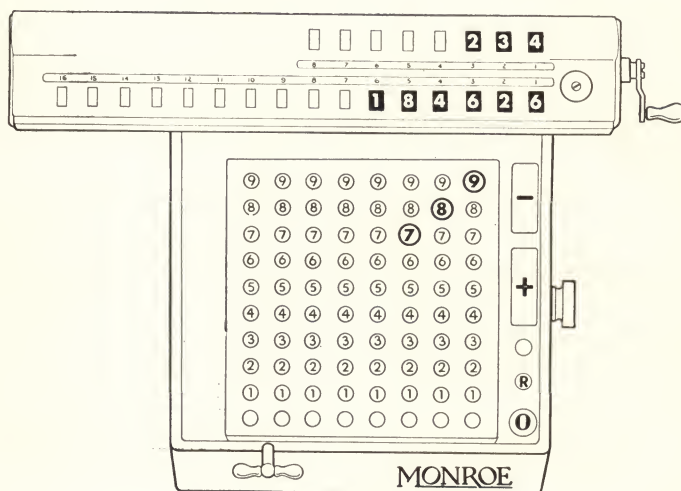

Figure 4
*Step 3*—Upper dials now read 234, the multiplier; the keyboard (keys depressed) reads 789, the multiplicand; and the lower dials read 184626, the result. This is complete and positive proof of accuracy. The only further proof required is a visual check of 234 and 789 in the machine against the two specified amounts. If the amounts in the machine agree with those specified the result must be correct. See Figure 4.
At the completion of the previous problem (See Figure 4), the machine shows 789 on the keyboard, 234 in the upper dials, and 184626, the result, in the lower dials. Suppose 789 is constant as a multiplicand. We wish to change the multiplier 234 to 432.